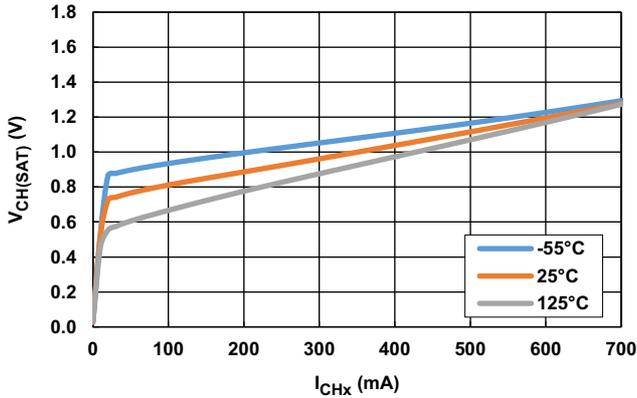

Figure 9.  $V_{CH(SAT)}$  vs  $I_{CHX}$  vs Temperature
6. Note: The performance curves shown in Figure 9 on page 13 were taken using the evaluation board and a Keysight B2902A precision source/measurement unit. Test conditions:
- c. Channels CH0, CH8, CH16, CH24, and CH31 were measured. The plots in Figure 9 are the average of these channels.